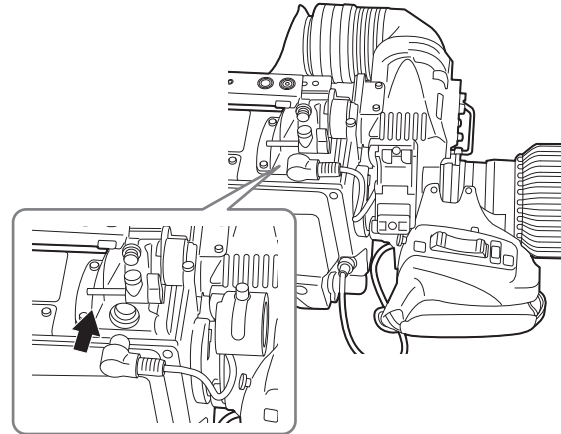

Fig. 2
- 4** Connect the plug to the <VF> terminal. (Fig. 2)